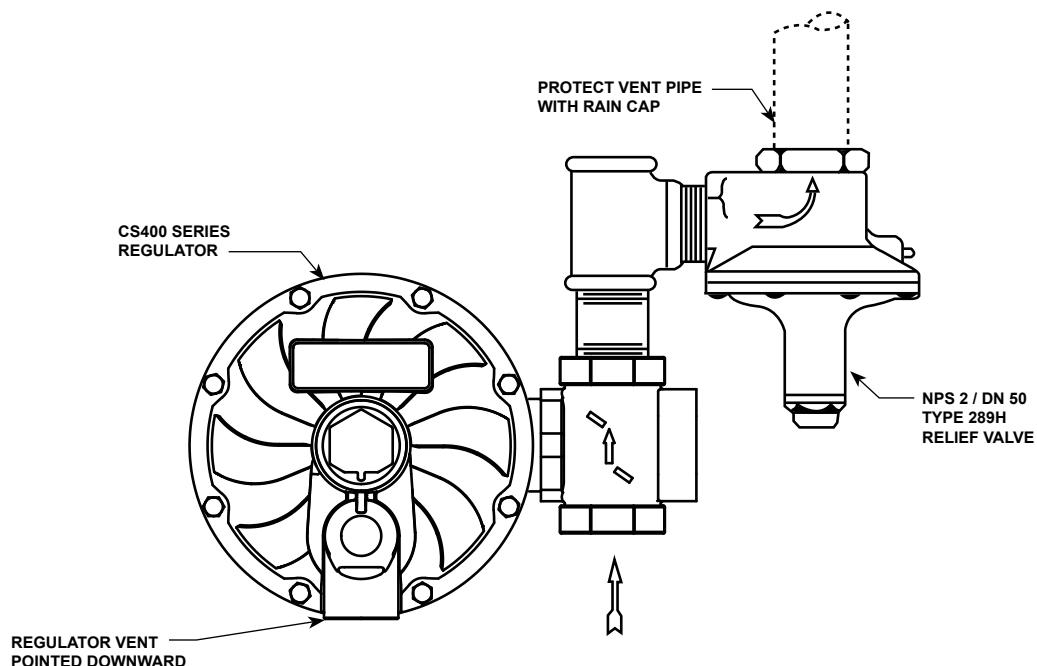

Figure 5. CS400 Series Regulator Installed with the Vent Pointed Downward and with a Type 289H Relief Valve for High Capacity Relief
All vents should be kept open to permit free flow of gas to the atmosphere. Protect openings against entrance of rain, snow, insects or any other foreign material that may plug the vent or vent line. On outdoor installations, point of the spring case vent downward to allow condensate to drain (see Figures 5 through 7).
- **Install the regulator with the vent pointed vertically down, see Figures 5 through 7.** If the vent cannot be installed in a vertically down position, the regulator must be installed under a separate protective cover. Installing the regulator with the vent down allows condensation to drain, minimizes the entry of water or other debris from entering the vent and minimizes vent blockage from freezing precipitation.
If the regulator is used in conjunction with a Type 289H relief valve, it should be installed as shown in Figure 5. The outside end of the vent line should be protected with a rainproof assembly. The Type 289H should be set 10 in. w.c. / 25 mbar higher than the outlet pressure setting of the regulator, up to 30 in. w.c. / 75 mbar outlet pressure. For pressure greater than this, set the Type 289H 0.75 psi / 0.05 bar higher than the outlet pressure setting of the regulator.